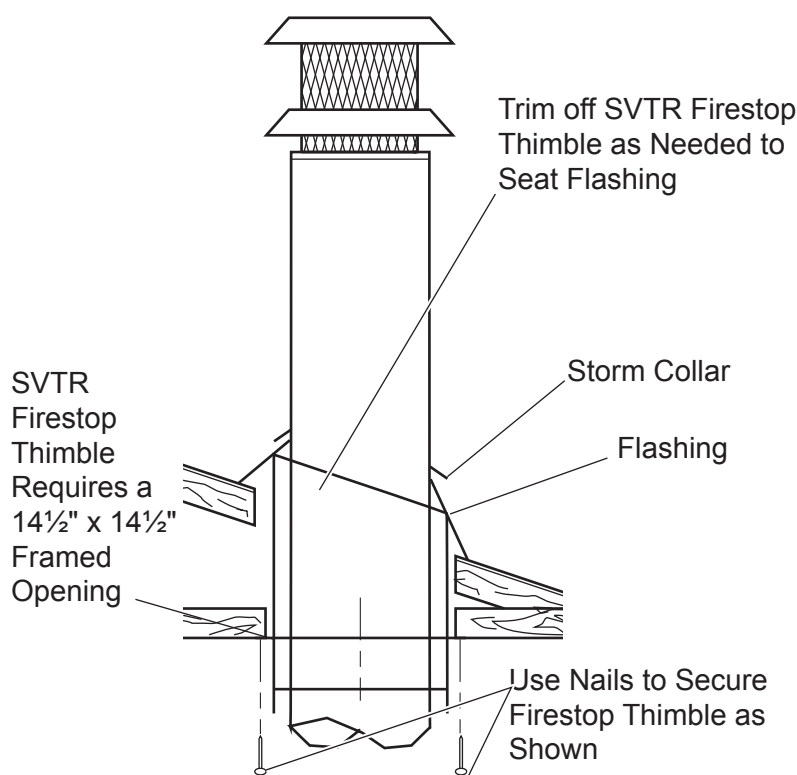
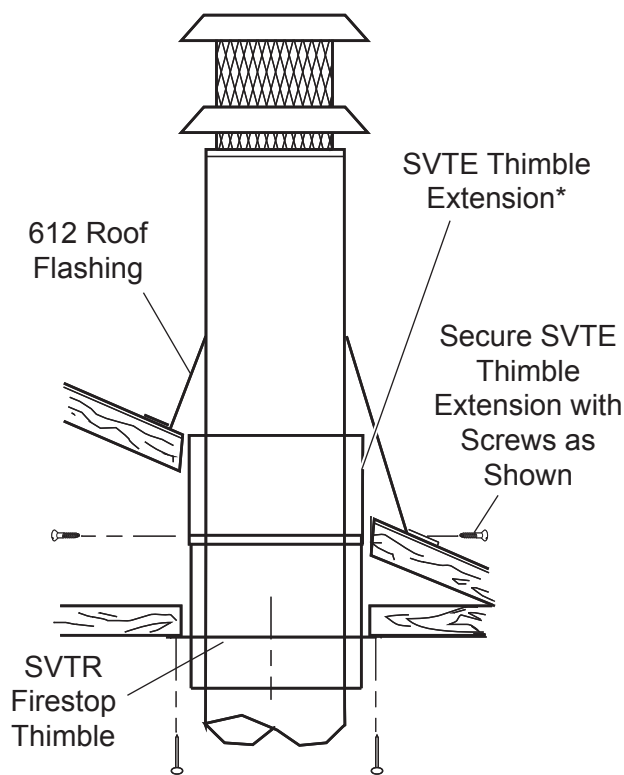

Figure 13 - Standard Roof
Figure 14 - Pitched Roof with Attic Space
A firestop thimble is required in the chimney installation of all fireplaces safety-certified for installation in manufactured homes. For shielding purposes, the firestop thimble must pass through the manufactured home ceiling and extend up to the roof line of the manufactured home. See Figures 13 through 15. When an extension is needed, a thimble extension must be installed along with the firestop thimble. Models SVTR and SVTE thimble extensions have been safety-certified for use with this fireplace and should be installed as follows.
2. Install the SVTR firestop thimble as shown in Figure 13. Nail it securely to the framing members. The firestop thimble should extend completely through the roof structure to shield combustible construction materials. If the SVTE thimble extension is needed, it should overlap the firestop thimble a minimum of 1". Screws should be used to secure the thimble extension to the firestop thimble. See Figure 14.